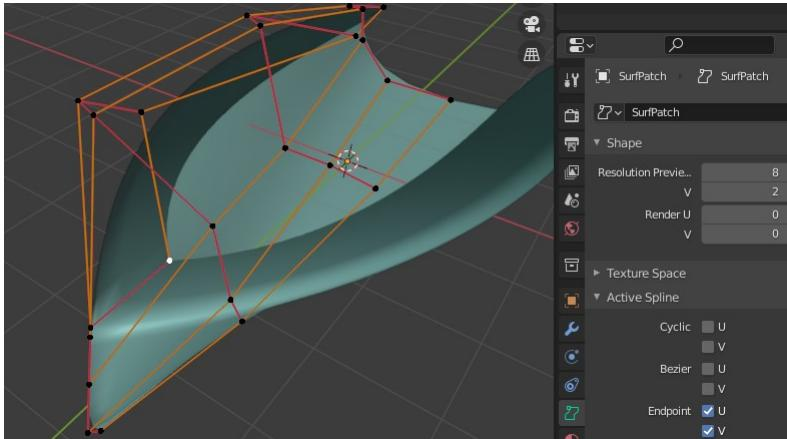

Figure 3-9 Boat shape using Nurb Surface
2. It will be easier to construct a shape for half the hull (you will add a mirror modifier) if you make the surface reach right to the outer control points. Open the Object Data Properties tab (green surface icon near the bottom of Figure 3-9) and under Active Spline tick the Endpoint U and V options.
You will find it easier to make a streamlined shape using only the sixteen control points of the starting nurbs surface but in figure 3-9 you can see that, after forming the basic shape, I added some more points by extruding the edge twice in the V direction (the pink lines running across the boat) in order to flare the gunwale slightly and wrap the surface over to form side-decks. Leave the stern open, you will fill it after the surface has been converted to a mesh.